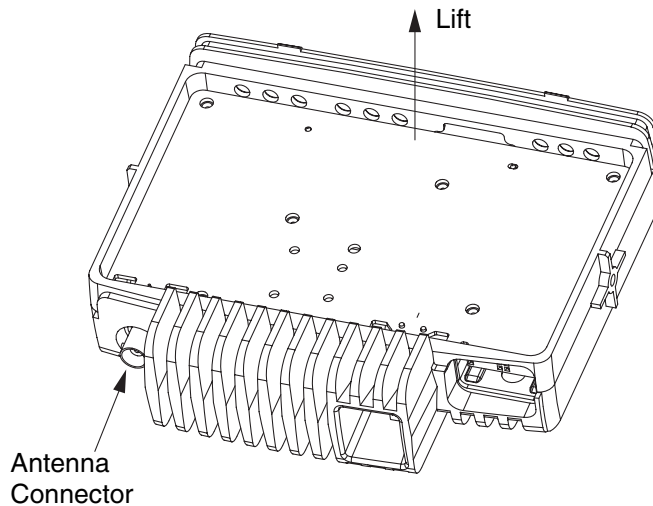

Figure 2-5: Transceiver Board Removal
3. Slowly lift the transceiver board on the edge at the front of the radio (the edge that mates with the control head) and pull gently toward the front of the radio as shown in Figure 2-5. Take care to slide the antenna connector and power connector out of the chassis towards the front.